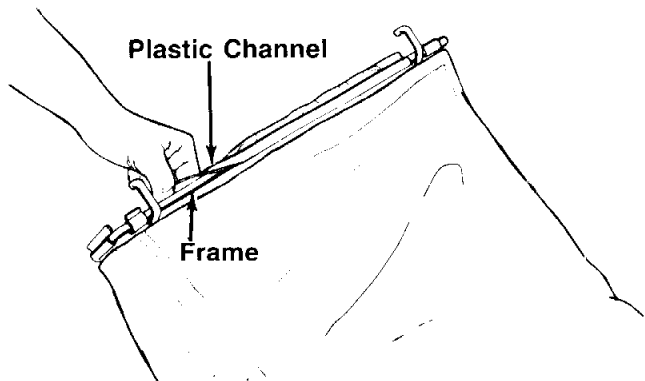

FIGURE 16.
4. Secure front of bag to frame by working the plastic channels on bag over frame. See figure 16.